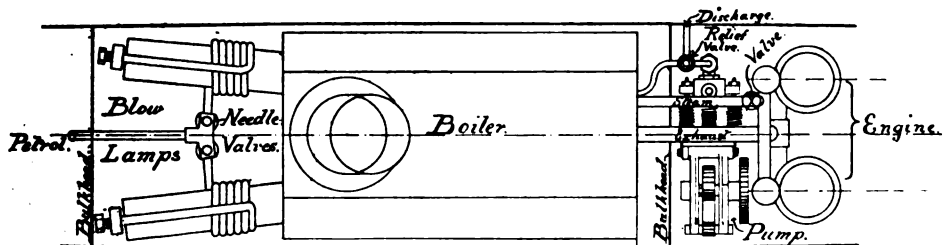
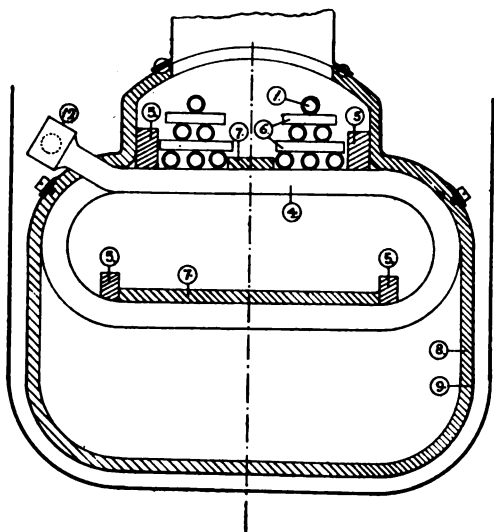

FIG. 7.—SHOWING GENERAL ARRANGEMENT OF ENGINE, BOILER AND PUMP.
FIG. 3.—TRANSVERSE SECTION.
The sheet-metal case (9) is made in two parts, as shown in Fig. 3, and screwed together so as to enable the junction-boxes to project beyond.
No safety valve is required for this type of boiler, but a relief valve—indicated in Fig. 7 (which gives the general arrangement of the engine, boiler, pump, etc.)—serves as a bypass, which opens immediately the pressure rises too high and cuts off the supply of water to the boiler, thus reducing the pressure. As shown in Figs. 3 and 7, there is a clear space round the boiler between it and the skin of the hull. The bulkhead abaft the boiler is placed 1 in. away from the boiler, and through this space the air is admitted to the